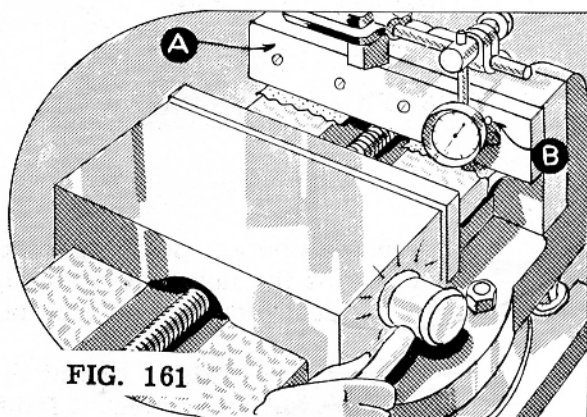

FIG. 161
11. Note the measurement on the dial. Then move the ram to the forward position (B), Fig. 161.
13. Tap the vise lightly to move it the necessary distance in a direction away from the higher setting (Fig. 161).